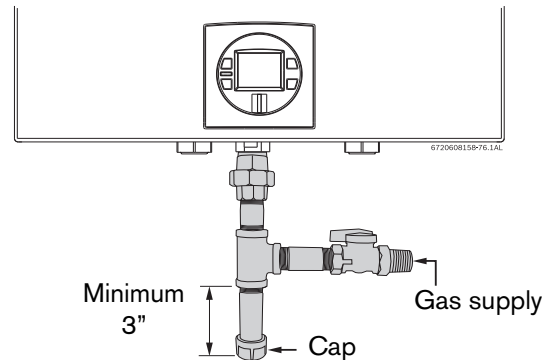

Fig. 22 Gas connection (drip leg)
- ▶ National Fuel Gas Code requires that a sediment trap (drip leg) be installed on gas appliances not so equipped. The drip leg must be accessible and not subject to freezing conditions. Install in accordance with the recommendations of the serving gas supplier, see Fig. 22.